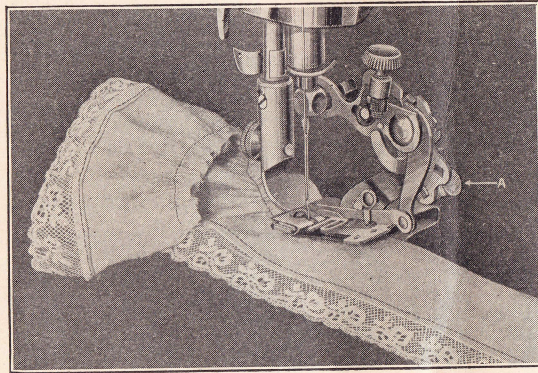

FIG. 25
move the presser foot and attach the ruffler in its place, connecting the lever with the needle clamp, as shown in Fig. 25. To make a ruffle with a gather or plait at every stitch see that the adjusting lever (A) of the ruffling attachment is at its lowest point as shown in Fig. 25. Place the material to be ruffled between the lower or separator plate and the ruffling blade, push backward until the material is slightly back of the needle, lower the presser bar and proceed to sew.